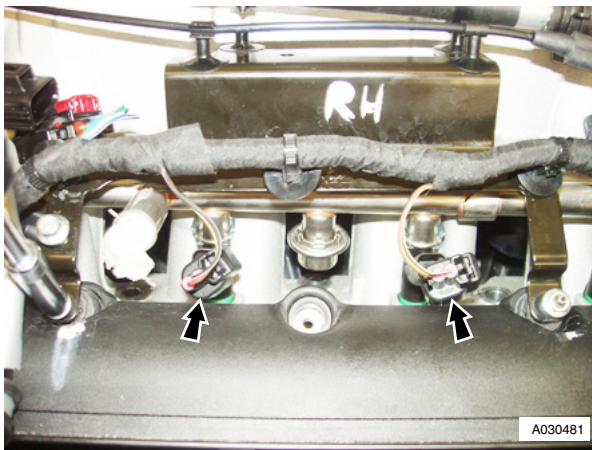

Fig. 6
14. Disconnect multiplugs (x8) to ignition coils (see Fig. 6).